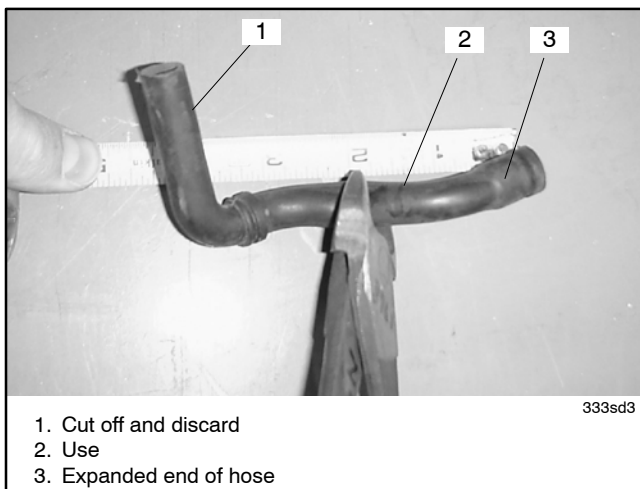

Figure 9 Cutting Off the Rubber Breather Hose
- 4.4 Cut off the rubber breather hose two inches from the engine end. See Figure 9.